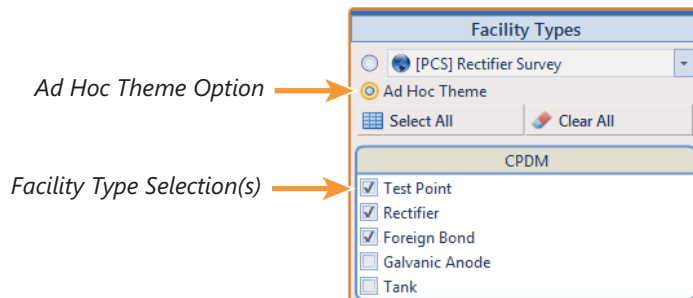

Figure 18-8. Ad Hoc Theme Option
- b To select multiple facility types, click the **Ad Hoc Theme** option button and then click the check box for one or more facility types, such as *Test Point*, *Rectifier*, and *Foreign Bond* (Figure 18-8).